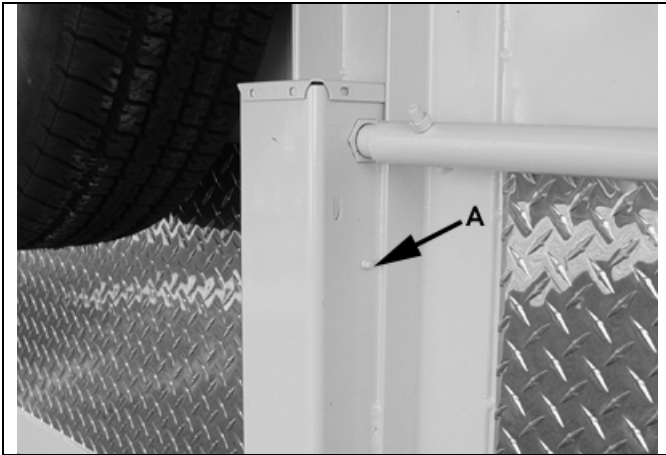

Figure 9-1 – Lubricate Jack
Pump grease into the zerk (A) to lubricate the jack every 6 months or 6,000 miles. See figure 9-1